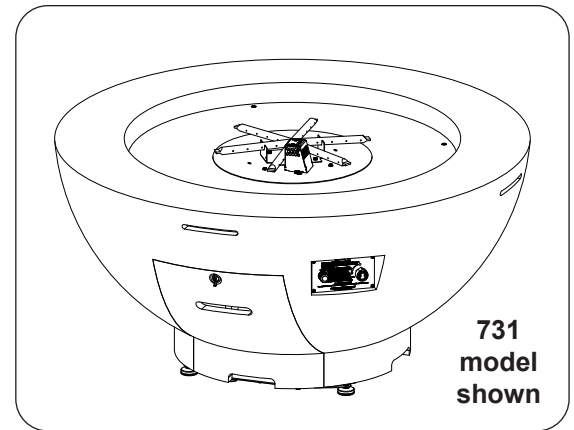

Fig. 29-1 Place unit
1. **CAREFULLY** place the unit in an appropriate location (see Fig. 29-1, and refer back to the LOCATION section if needed).